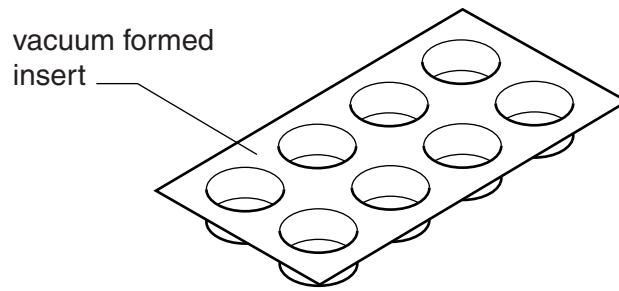
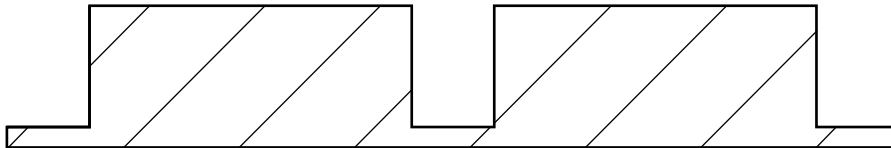

Fig. 3
Fig. 4
- (d) Fig. 3 shows a different design for an insert for the point of sale display. The insert is vacuum formed from thin plastic sheet.
- (e) Fig. 4 shows a section through a mould. The mould is used to vacuum form the insert shown in Fig. 3.
On Fig. 4, sketch **two** modifications that will make the plastic insert easier to form. [2]